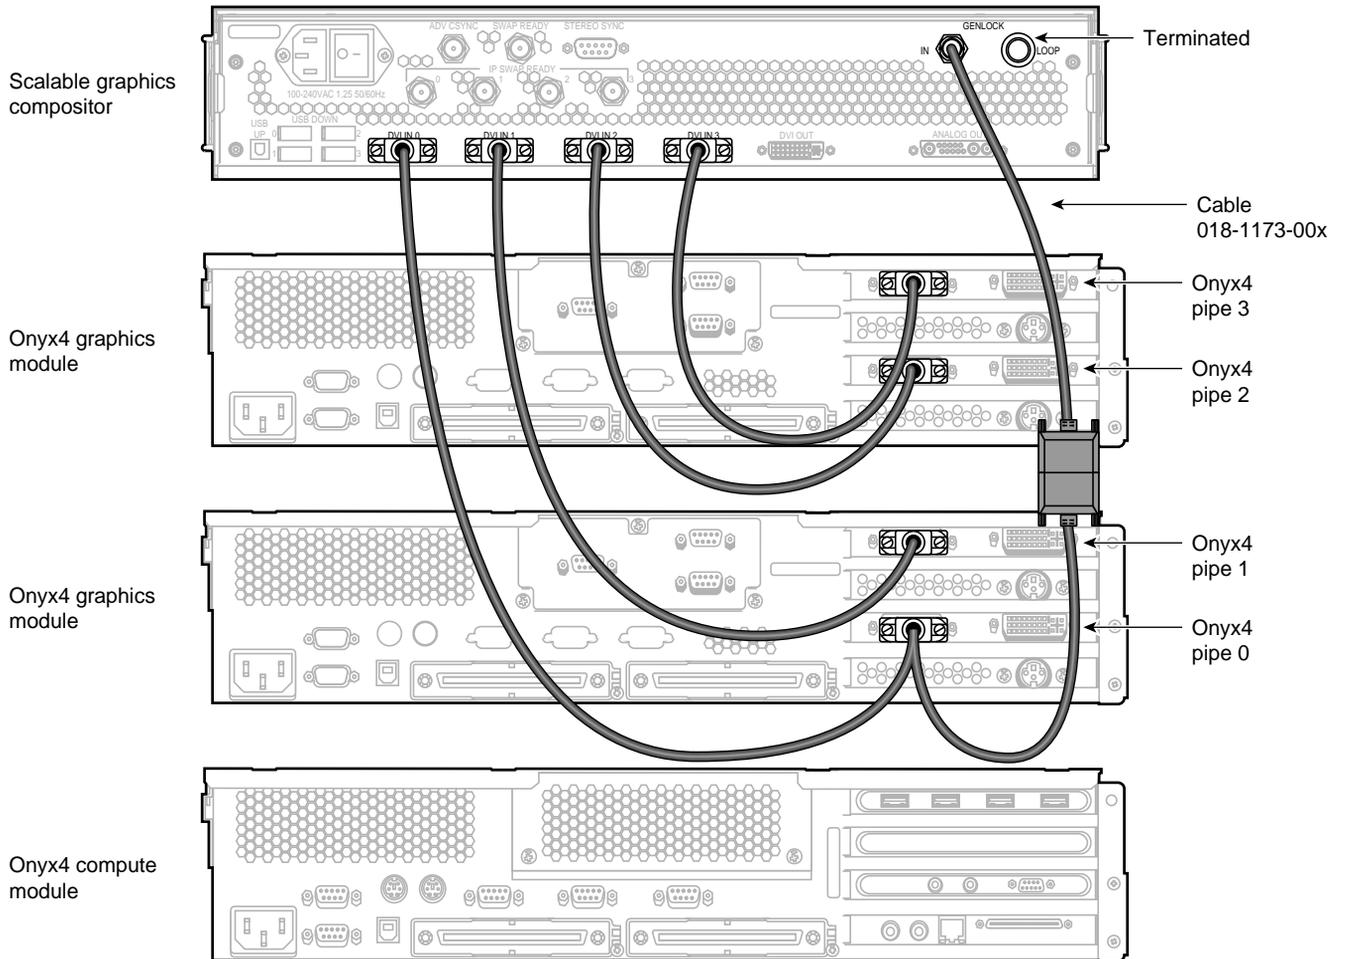

Figure 2-5 Connecting the DVI and Genlock In Connectors
4. Using the DVI splitter cable and DVI single-link cables, connect the DVI connectors on the Onyx4 pipes to the compositor DVI connectors in the following order (as shown in Figure 2-5):